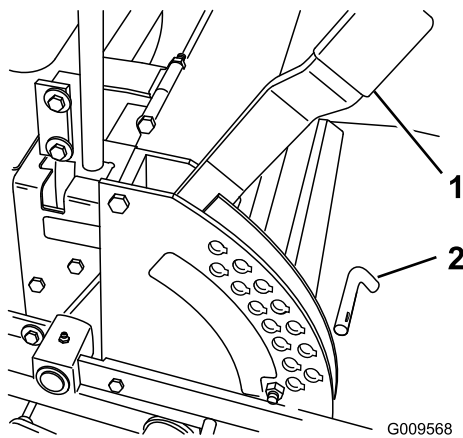

Figure 22
1. Raise the height-of-cut lever to the transport position (also the 5 inch (127 mm) cutting height position) (Figure 22).
2. To adjust, remove the pin from the height-of-cut bracket (Figure 22).
3. Select a hole in the height-of-cut bracket corresponding to the height-of-cut desired and, insert the pin (Figure 22).